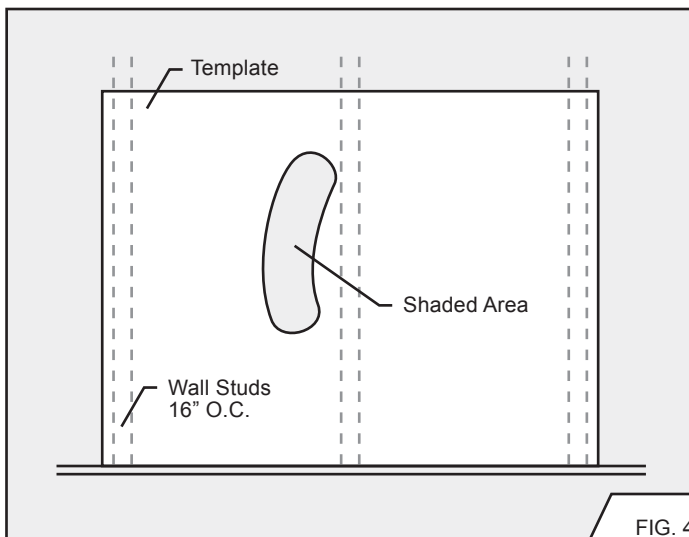

FIG. 4
- a) Select area on wall where heater will be installed. Using template (packed with heater) mark shaded area where hole can be cut and to locate the wall brackets. (See Figure 4).
- c) Mark location for 3-1/2" diameter hole between studs. Hole should be offset to miss studs. (See Figure 4).